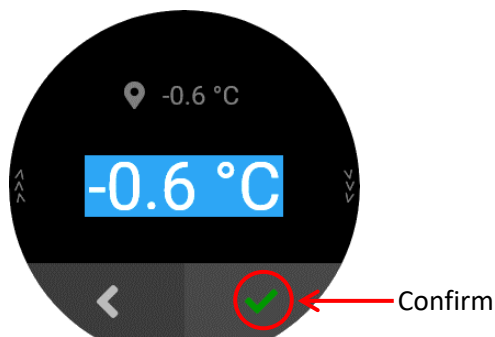

Figure 53: Confirm New Temperature Offset
12. Verify the new offset entered matches the current offset. Press the **Confirm**. See Figure 53.